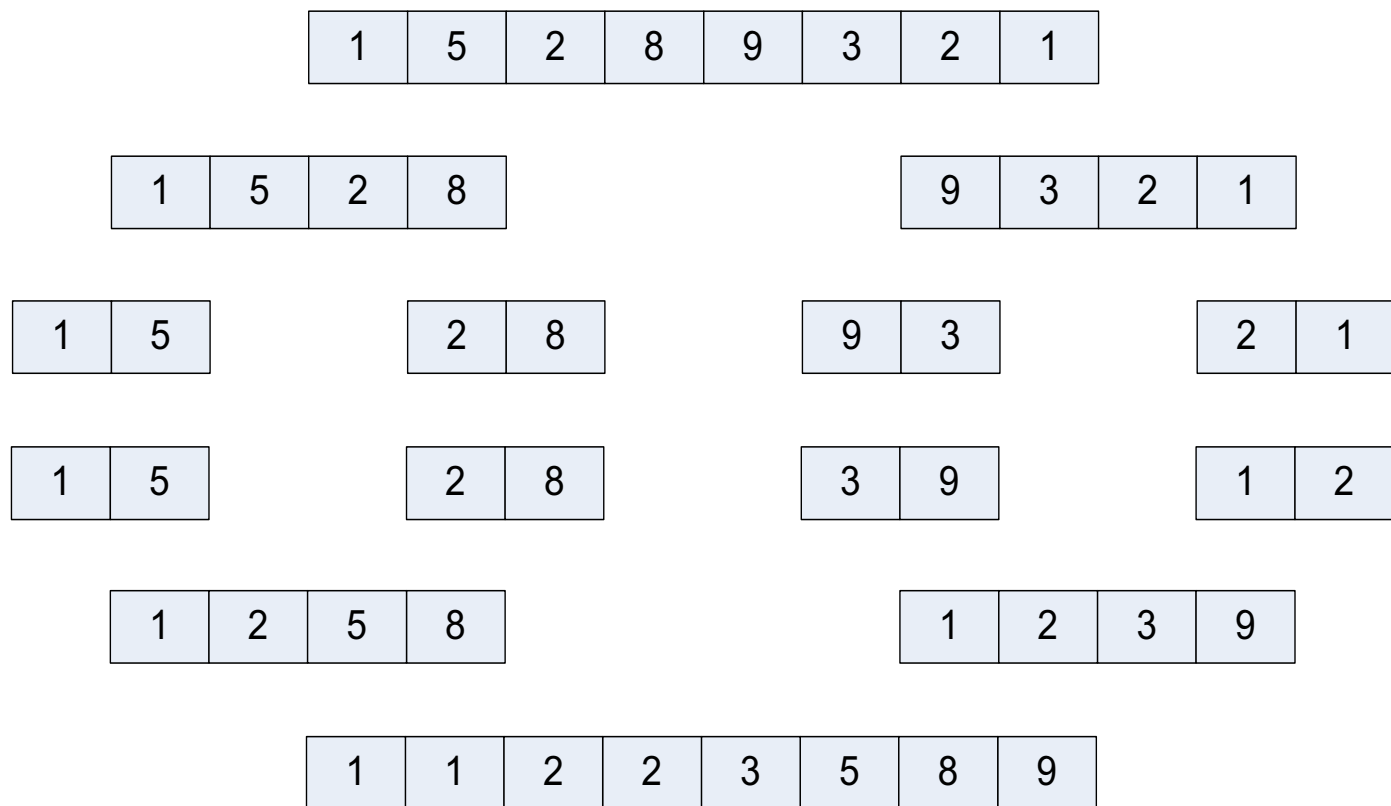

FIGURE 6.3
- One common algorithm found in the parallel world is the **merge sort** (Figure 6.3).